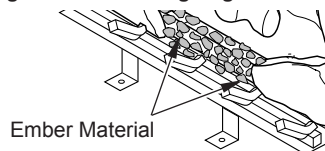

Figure 49 - Placing Ember Material on Burner
- Pull ember material apart into pieces no larger than a dime. Place these pieces loosely and sparingly directly onto exposed section of front burner and along space between burner and grate prongs (see Figure 49). This will create glowing ember appearance as flame touches ember material. Do not block air slots by using too much ember material in one area. It is not necessary to use all of ember material provided.